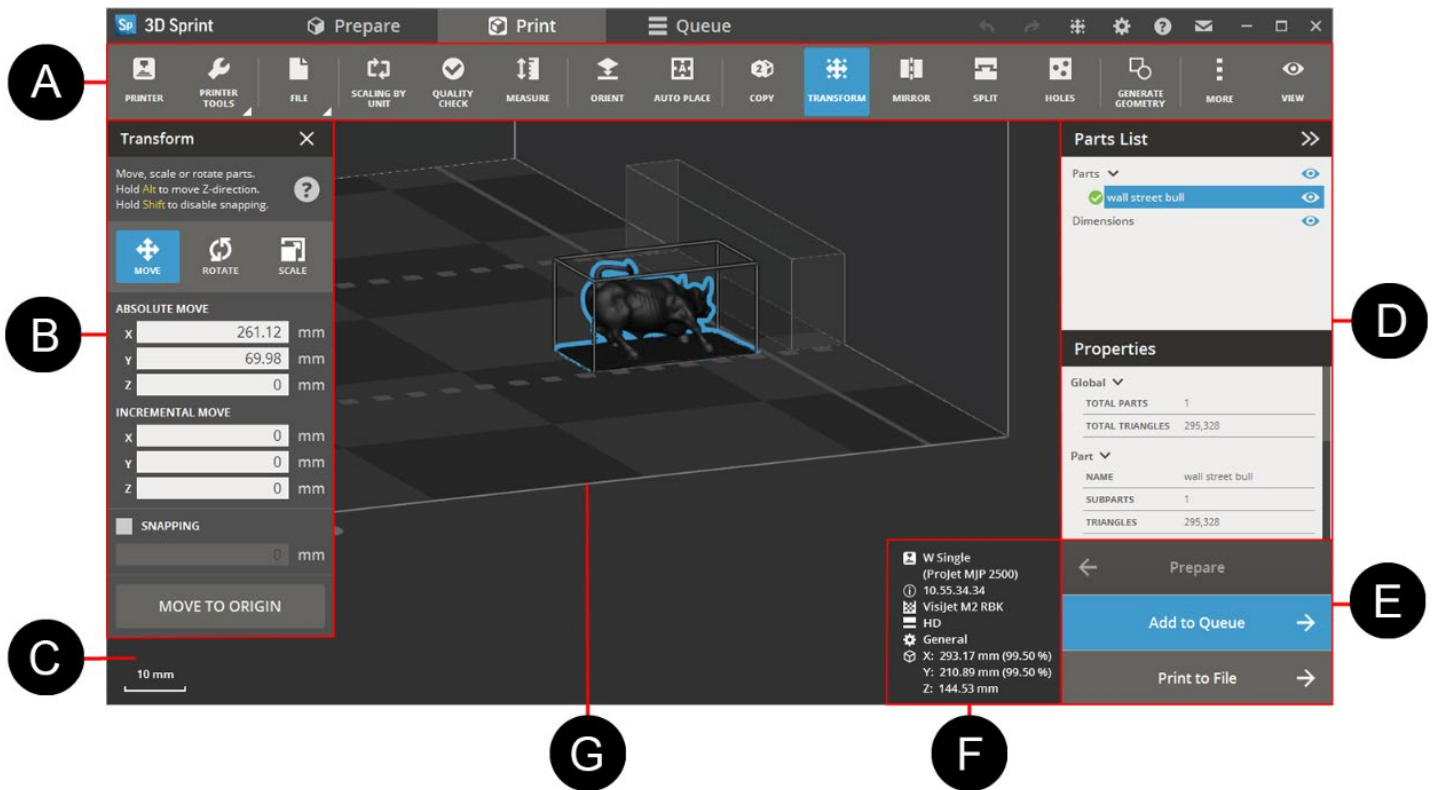

Figure 1 3D Sprint **Print** tab
- This accesses the **Print** tab in the 3D Sprint software (Figure 1).